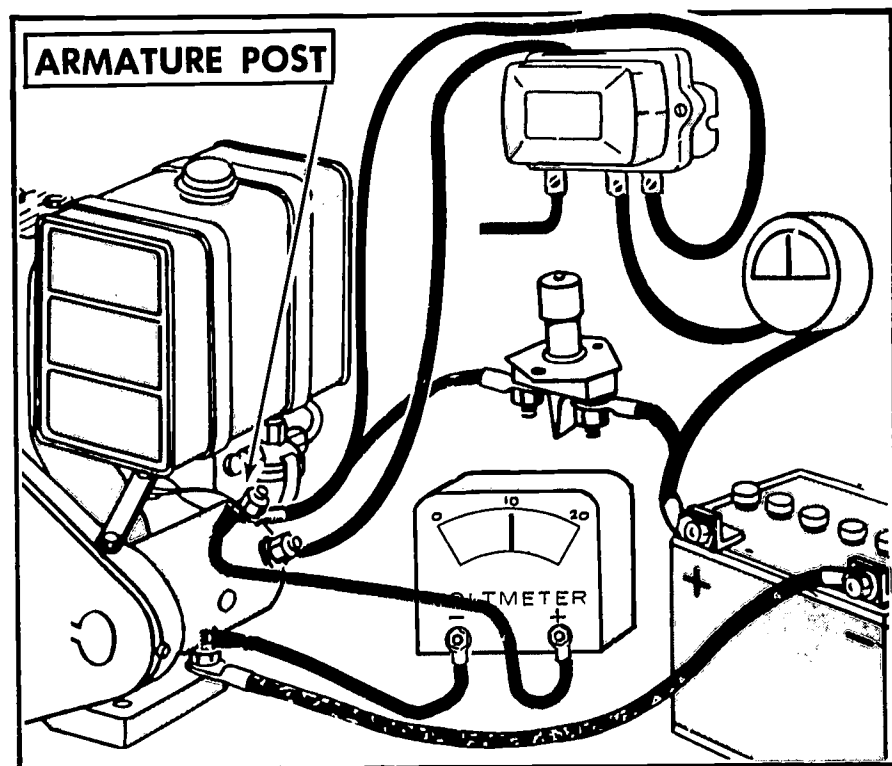

FIGURE 61. Checking the circuit between the starter switch and the starter with a voltmeter.
4. Check the circuit between the starter switch and the starter (Figure 61).